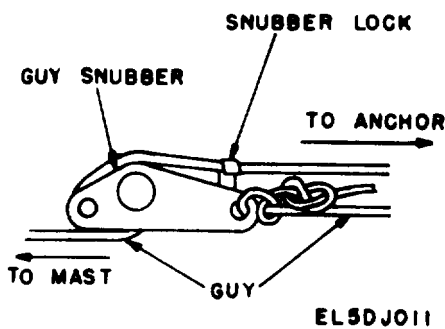

Figure 2-6. Secure guy snubber.
i. Pull the four side guy ropes, two upper and two lower, taut and secure them (fig. 2-6). The method for pulling guy lines taut is as follows:
(3) Secure guy by looping guy under snubber (fig. 2-6).